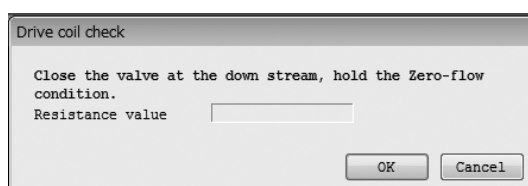

Fig.106
- ⑤ Click the "OK" button to return to the window from before the check, and then click the "Cancel" button to close the window. Clicking "OK" here will start the hardware check over again.
- ① Click the "Diag/Service (T)" menu, select "Self Diag" from the "Test/Status" drop-down list, and then click "Drive coil check" under that.
- ② The following window will be displayed (Fig. 106). This will check the drive resistance. Click "OK" after completely stopping the fluid.